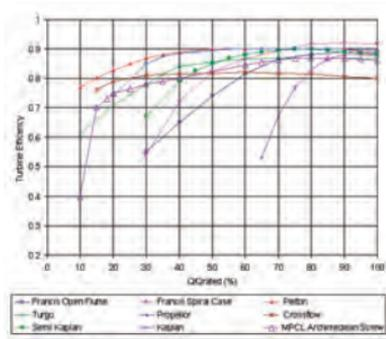

Figure 8.3 Efficiency Curves
- Efficiency curves** These describe how the turbine efficiency changes with changing flow. A set of typical curves are included in the software, see Figure 8.3. These were obtained from a variety of sources and may differ to specific values quoted by individual manufacturers.